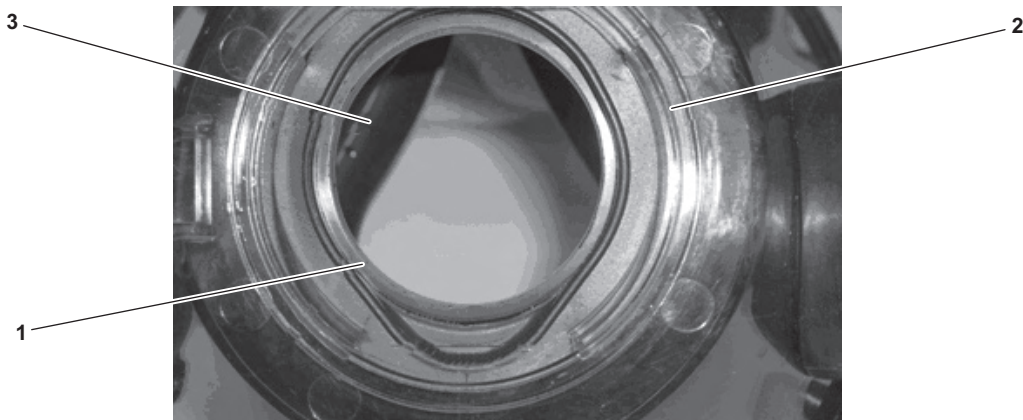

Figure 6-10. Retaining Ring Removal
- (2) From the outside of the facepiece, use the thumb to dislodge the retaining ring (figure 6-10, item 1) from the adaptor port (figure 6-10, item 2) and the nosecup assembly (figure 6-10, item 3).